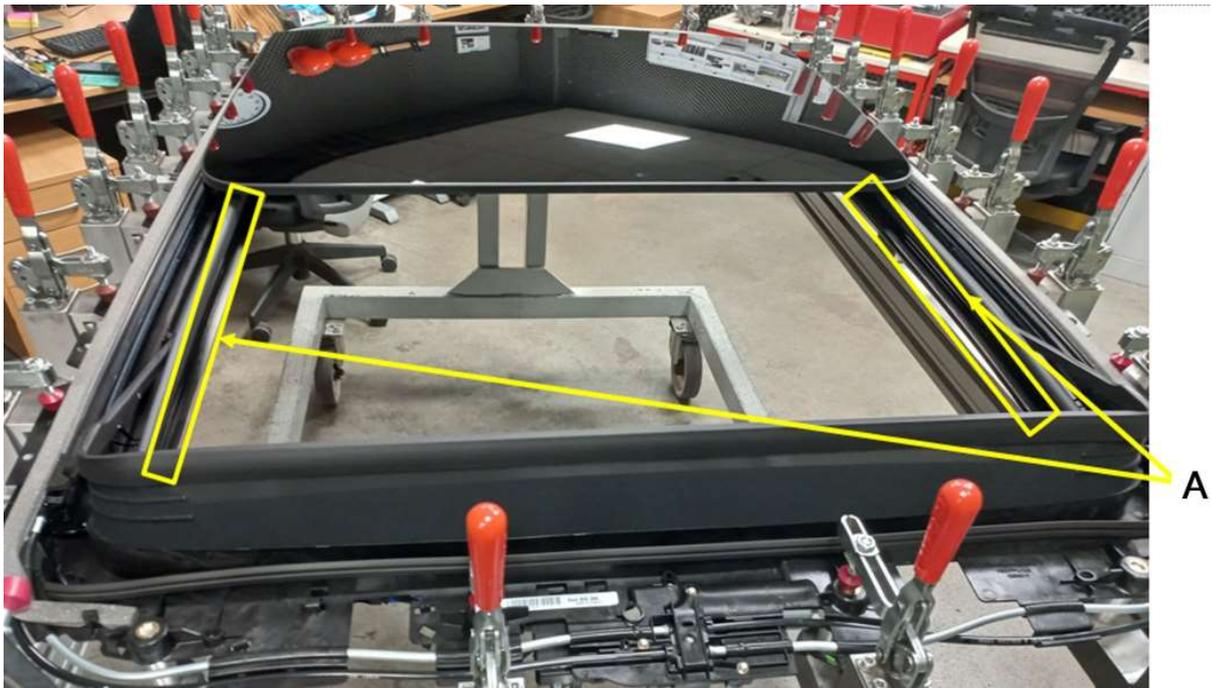

Figure 3 Contamination of roof check
3. Inspect areas 'A' labelled in figure 3 of the frame for contamination.